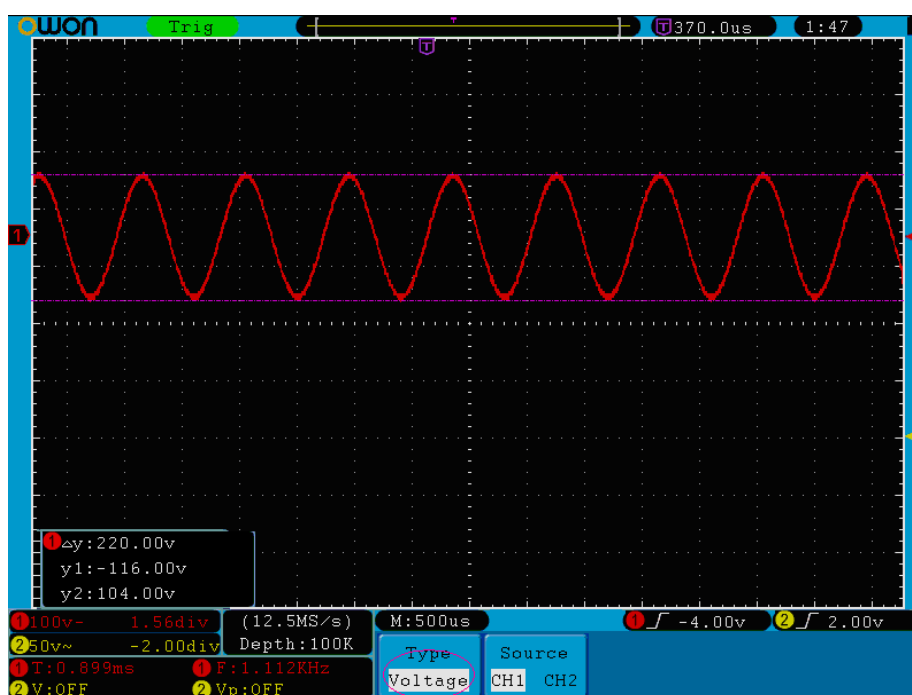

Fig.5-51 Waveform of Voltage Cursor Measurement
4. According to the measured waveform, adjust the positions of Cursor1 and Cursor2 by turning the **VERTICAL POSITION** knob of CH1 and CH2. Cursor increment window at the left bottom of waveform shows absolute value of D-value of cursor 1 and cursor 2 and the present position of the two cursors. (See Fig.5-51).